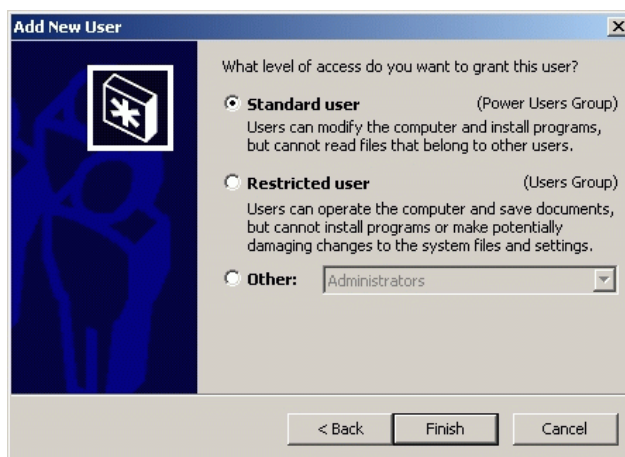

Figure 2-62 Add New User Wizard (Third Window)
3. Type the new user's password in the *Password* and *Confirm password* fields, then click *Next*. The third window of the *Add New User* wizard displays (Figure 2-62).